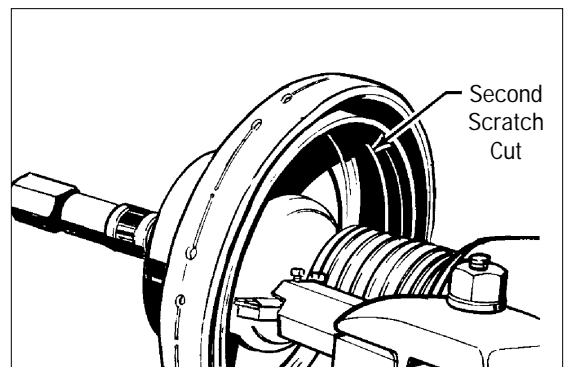

Figure 14 - Second scratch cut
13. Turn the spindle feed handwheel 1/2 turn in either direction and make a second scratch cut (figure 14).